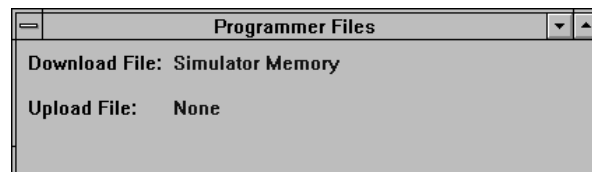

Figure 6-22. Programmer Files Window
- Files Window: The Programmer Files window (Figure 6-22) identifies the filename of the download and upload files.